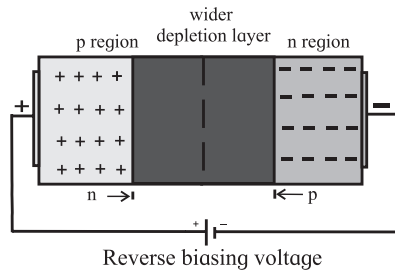

Fig. 14.25: Increase in width of depletion region.
**b) Reverse biased:** The positive terminal of the external voltage is connected to the cathode (n-side) and negative terminal to the anode (p-side) across the diode. In case of reverse bias, the width of the depletion region increases and the p-n junction behaves like a high resistance (Fig. 14.25). Practically, no current flows through it with an increase in the reverse bias voltage. However, a very small **leakage current** does flow through the junction which is of the order of a few micro-amperes, ( $\mu\text{A}$ ).